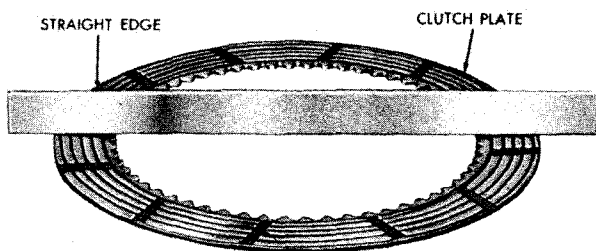

Fig. VI-17. Method of determining amount and direction of clutch plate cone
b. Cleaning, Inspection, Wear Limits. Refer to sect. IV, para 6 for cleaning and inspection procedures. Refer to sect. IV, para 7 and to sect. VIII for wear limits information. All clutch plates should be inspected to determine the amount and direction of the cone. Place the clutch plate on a flat surface and lay a straightedge across the plate (fig. VI-17). Measure the amount of cone by placing a thickness gage between the straightedge and the inside diameter of the plate. When assembling the plates, make sure that each is installed so that the cone is in the same direction.